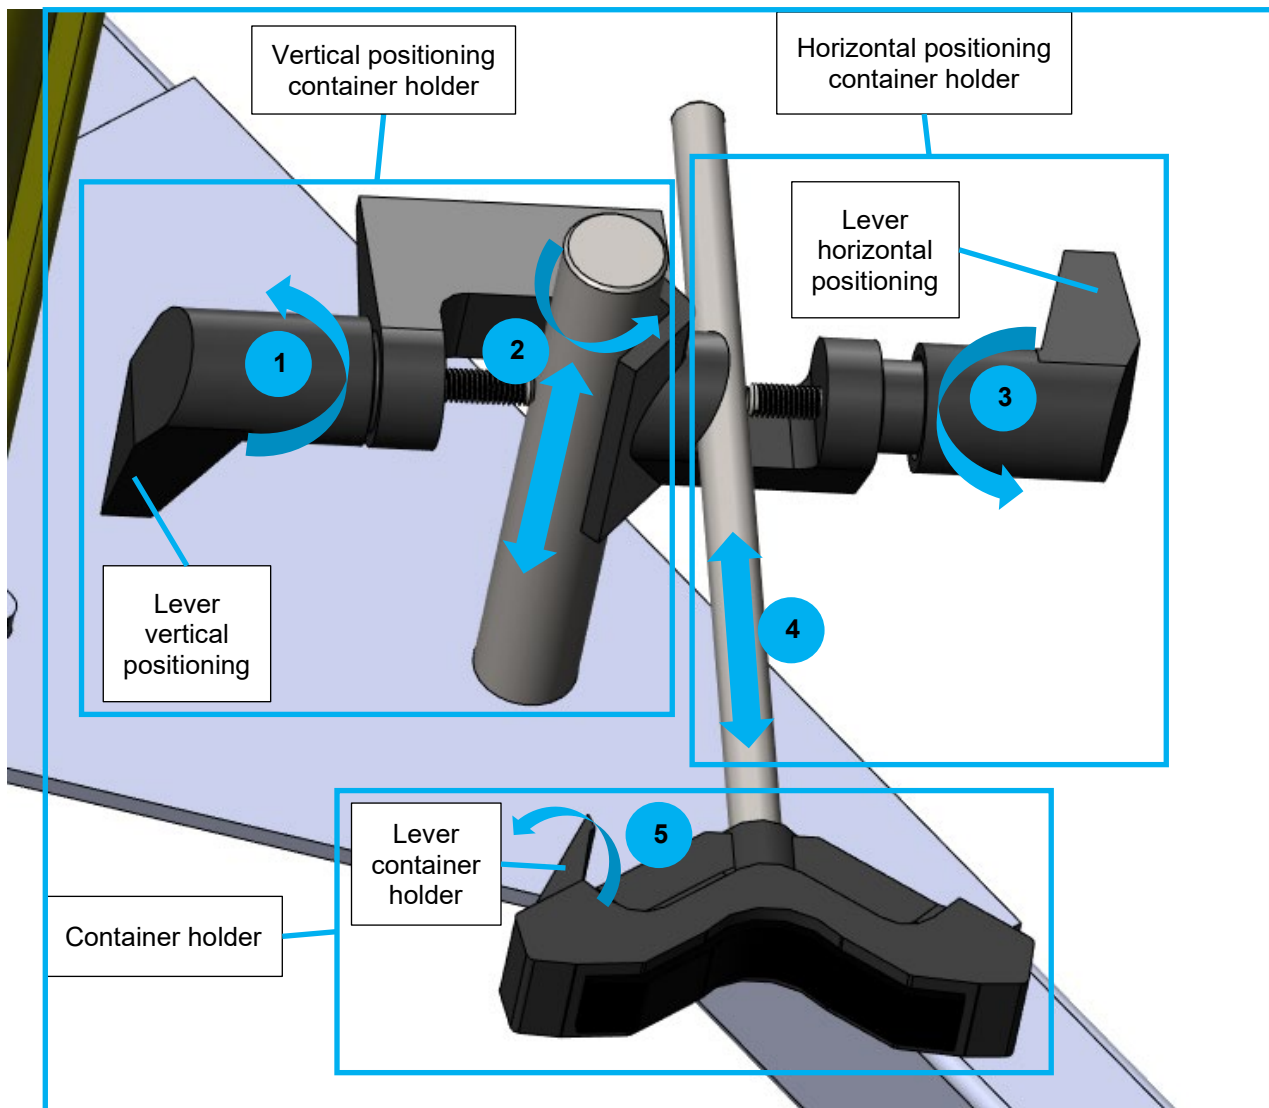

Figure 8: Clamping holder for small containers in the top view
The clamping holder for small containers has two adjustment options: one to adjust its vertical position and another to adjust its horizontal position (Figure 8):
2. To open the vertical positioning of the container holder, turn the lever for vertical positioning in the direction of the arrow ("1" in Figure 8).
- a. Now, it is possible to move the entire fastening mechanism vertically ("2" in Figure 8) and additionally adjust the horizontal angle ("2" in Figure 8) of the container holder.
- b. Position the mechanism in a way that the container holder (Figure 8) is as close as possible to the upper edge of the agitator container in the vertical direction.
- c. Once you have reached the desired vertical position, turn the lever for vertical positioning in the opposite direction of the arrow ("1" in Figure 8) and ensure that the lever is securely locked in place.
3. Next, open the lever for horizontal positioning in the direction of the arrow ("3" in Figure 8).
- a. Move the container holder horizontally ("4" in Figure 8) until it is in contact with the agitator container.
- b. Then, turn the lever for horizontal positioning in the opposite direction of the arrow ("3" in Figure 8) to secure it.
4. Open the lever of the container holder in the direction of the arrow ("5" in Figure 8), wrap the rubber band of the container holder (not shown here) around the agitator container once, and thread it into this lever.
5. Finally, pull the rubber band tightly around the agitator container and close the container holder lever in the opposite direction of the arrow ("5" in Figure 8).